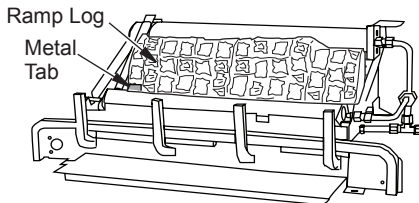

Figure 22 - Installing Fiber Ramp Log
- Place fiber ramp log in center of chassis as shown in Figure 22. The fiber ramp log can be identified by the shape and much lighter weight when compared to the other logs. The log must sit flat on the black sheet metal and behind the left metal tab as shown. Make sure the side marked "BOTTOM" is setting down.